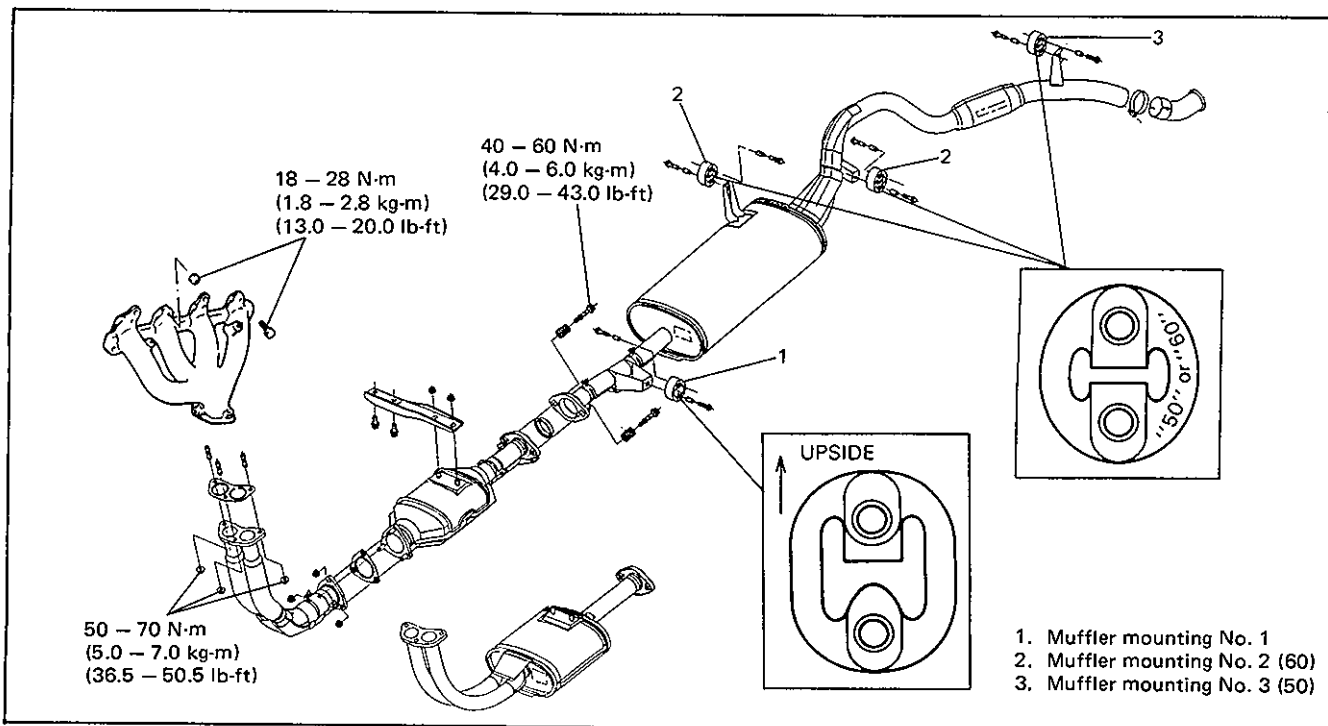

Fig. 6K-2 Recommended Torque Specification
- Tighten bolts and nuts to specified torques when reassembling. Refer to Fig. 6K-2 for location of bolts and nuts.